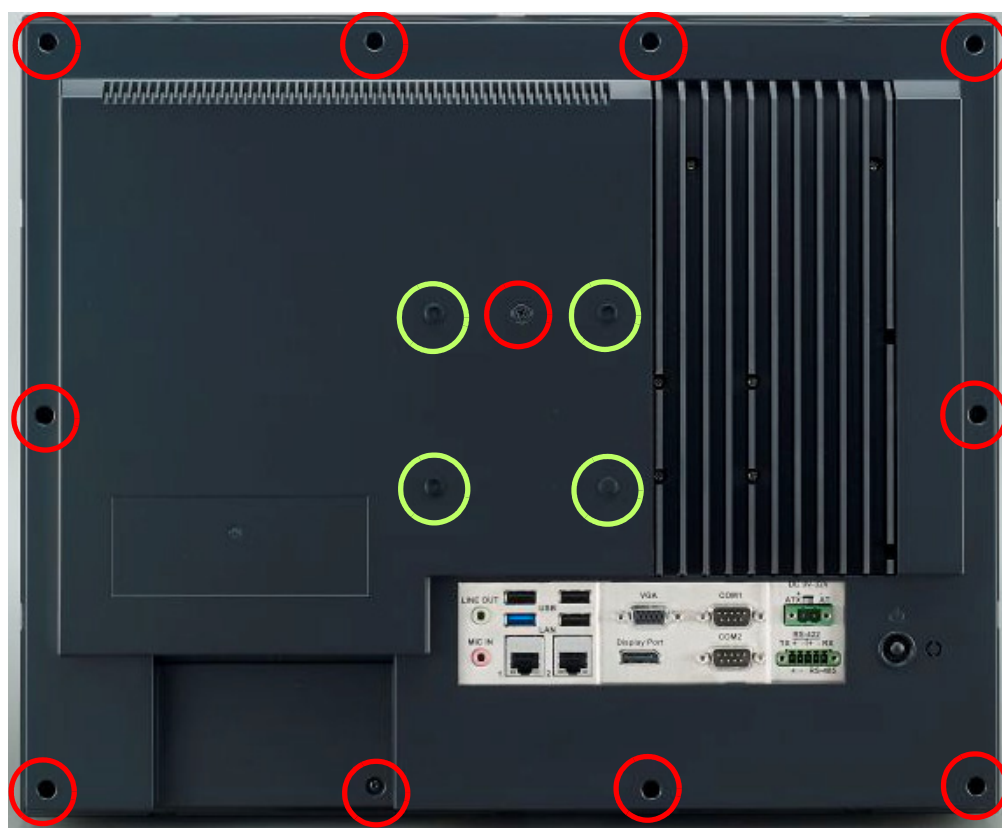

Figure 2.35
1. Remove the 11 screws (circled in red) and take out the four plugs (circled in yellow) from the rear cover to remove the rear cover (see Figs. 2.35 and 2.36).